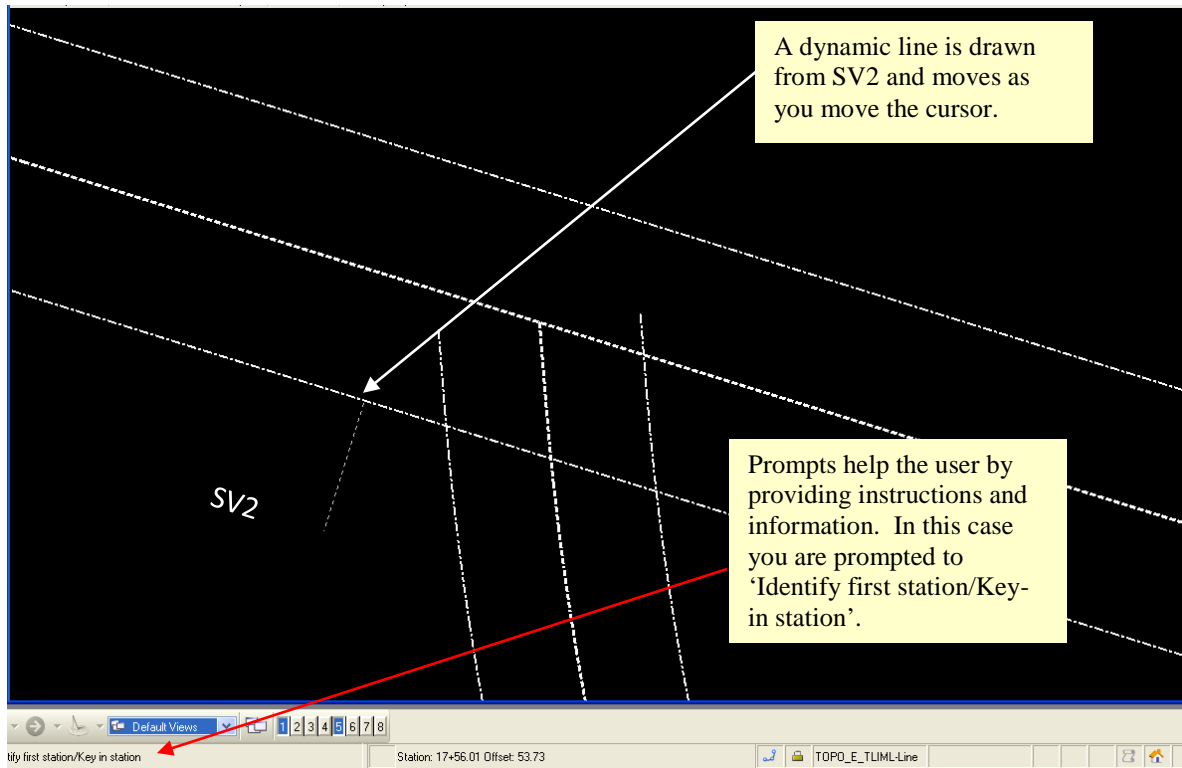

Figure L12-7 MicroStation Window
| 36. | <p>Use the Geometry Utility Partial Delete Alignment to partially delete alignment SV2 between SV3 and SV5 as shown highlighted in yellow in Figure L12-6.</p> <ul style="list-style-type: none"> <li>• Select Geometry ► Utilities ► Partial Delete Alignment...</li> <li>• Notice in the lower left corner of the MicroStation window you are prompted to '&gt; Identify alignment ' &gt; Identify alignment '.</li> <li>• Left Click once anywhere on SV2. You'll notice a dynamic line attached to SV2 that moves with your cursor as shown in Figure L12-7.</li> <li>• Continue to Step 37.</li> </ul> |
- **Notice**, in the lower left corner of the MicroStation window you are prompted to '> *Identify first station/Key in station* ' > Identify first station/Key in station . See Figure L12-7.